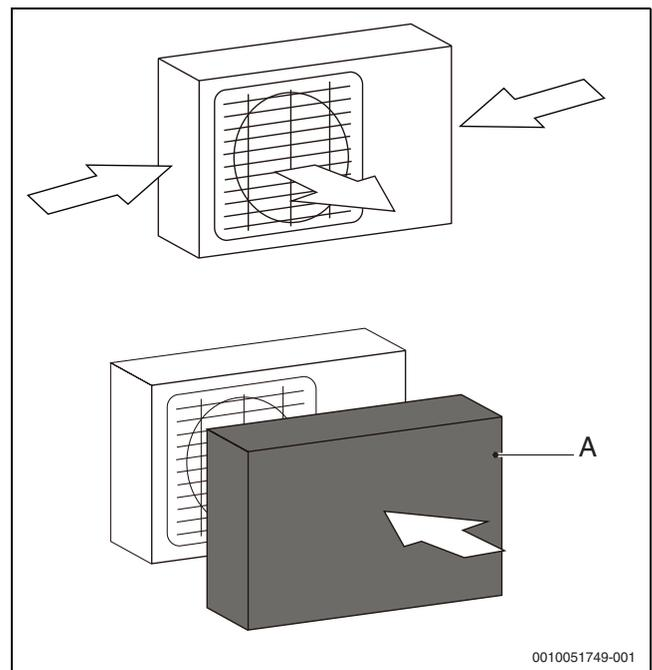

Fig. 36 Protect unit from particularly strong winds
- ▶ If necessary, place a barrier (→ Figure 36, [A]) in front of the unit to protect it from particularly strong winds.